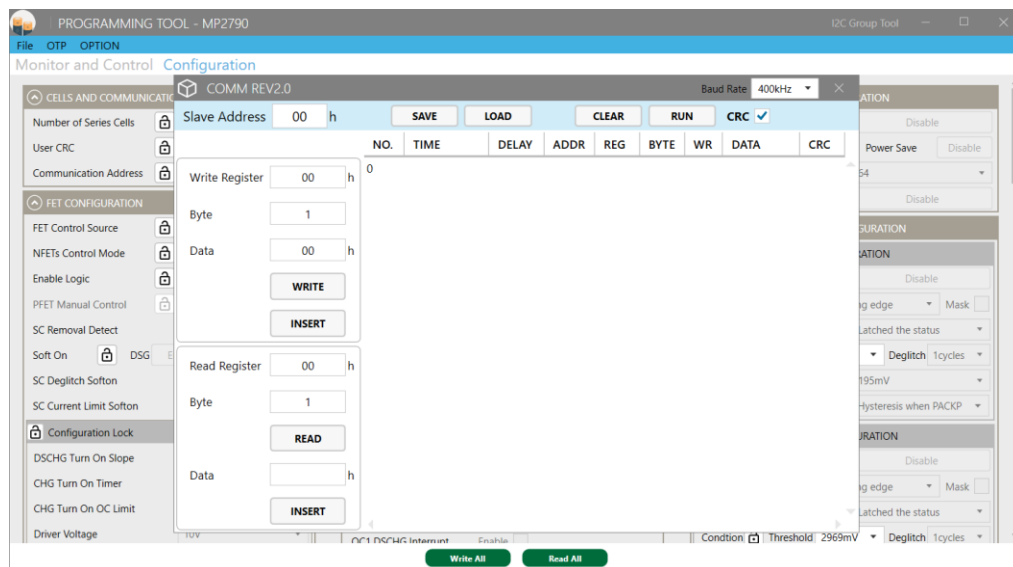

Figure 17: Group Tool to Configure a Single Register
5. Click “I2C Group Tool” (for the -0000 configuration code) or “SPI Group Tool” (for the -0002 configuration code) at the top right of the GUI window to configure a single register in the “COMM REV2.0” window that pops up (See Figure 17 on page 15).